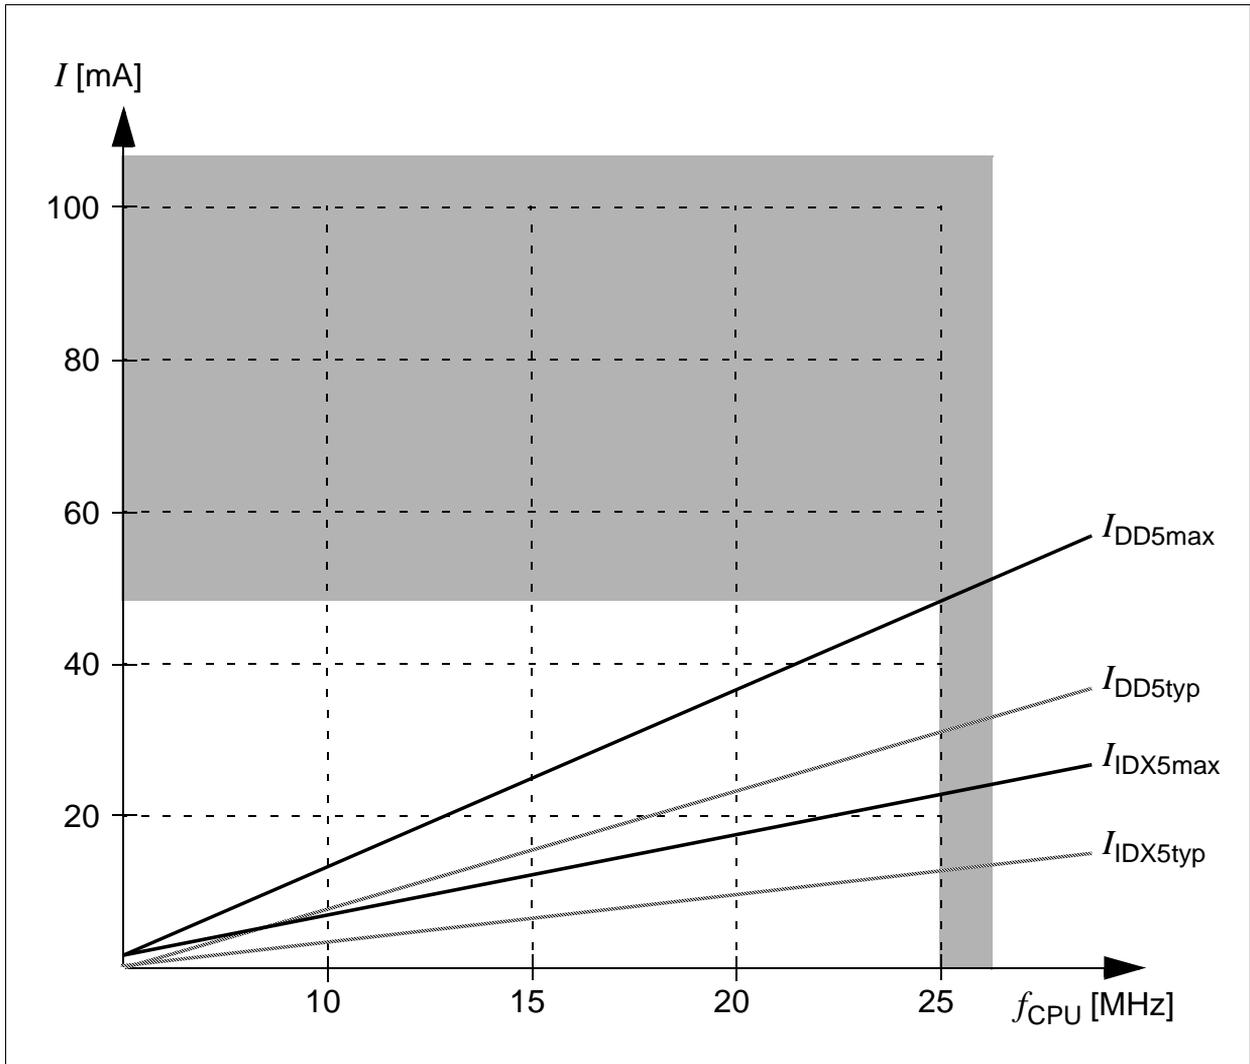

Figure 9 Supply/Idle Current as a Function of Operating Frequency
- 1) The supply current is a function of the operating frequency. This dependency is illustrated in Figure 9. These parameters are tested at  $V_{DDmax}$  and maximum CPU clock with all outputs disconnected and all inputs at  $V_{IL}$  or  $V_{IH}$ .